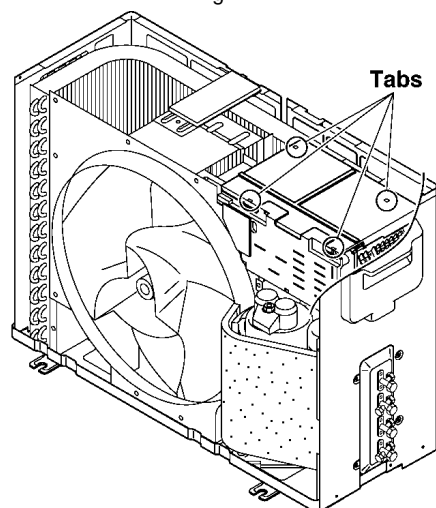

Fig. 22
3. Remove the control board cover (Top). (Four tabs) (Fig.22)